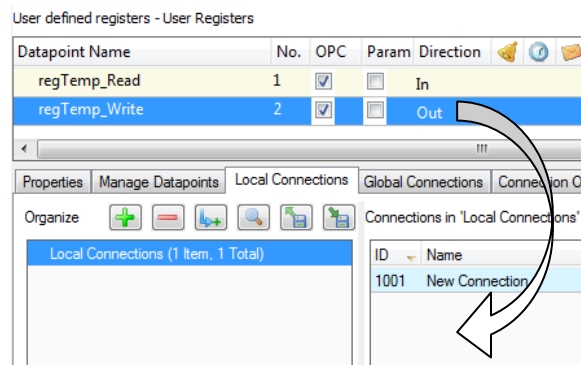

Figure 41: Create a connection with drag-and-drop.
2. In the properties view below the data point list click on the **Local Connections** tab as shown in Figure 41.
3. Then simply drag a data point from the data point list and drop it onto an empty area in the connections list as shown in Figure 41.